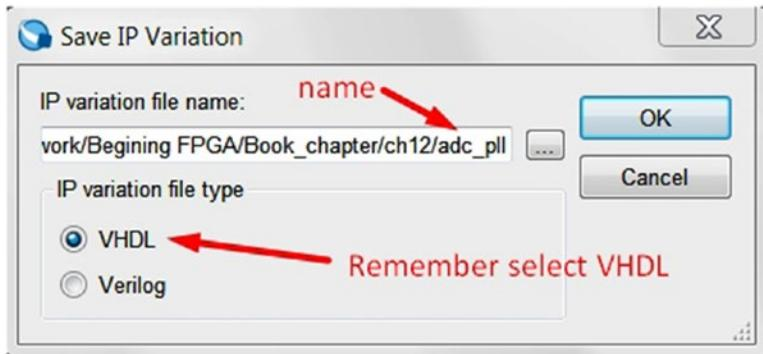

Figure 12-17. Save IP Variation for adc_pll
Step 2: A new IP variation window will appear as in Figure 12-17. Enter `adc_pll` at the end of the IP variation file name. Select **VHDL**. Click **OK**.